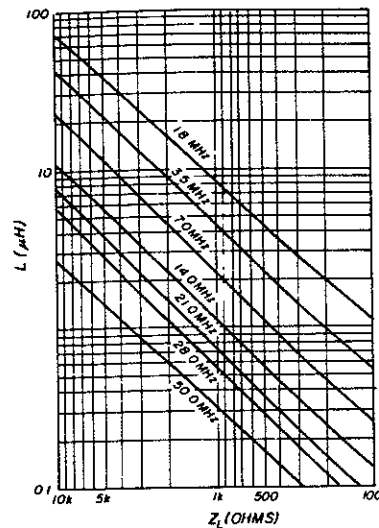

fig. 4. Plot of the plate inductance vs. plate load impedance for the high frequency Amateur bands ($Q = 12$).
leads entering and leaving the rf-tight box. Harmonic currents inside the box can easily flow out of the enclosure on these leads or even on the outer shield of a coaxial line if the shield is not properly grounded at the point of entry (fig. 4). Unshielded leads entering the box must be carefully bypassed and filtered at the point of entry to prevent rf energy from escaping from the box and flowing down the leads. A combi-
fig. 4. Improper termination of coaxial line can destroy effectiveness of the shield (A). Rf currents within the enclosure can escape via the outside shield of the line as it passes through the hole. Properly grounding the shield of the coaxial line to the box (B) ensures isolation of currents within the box. Rf currents outside the box are also prevented from entering the box.